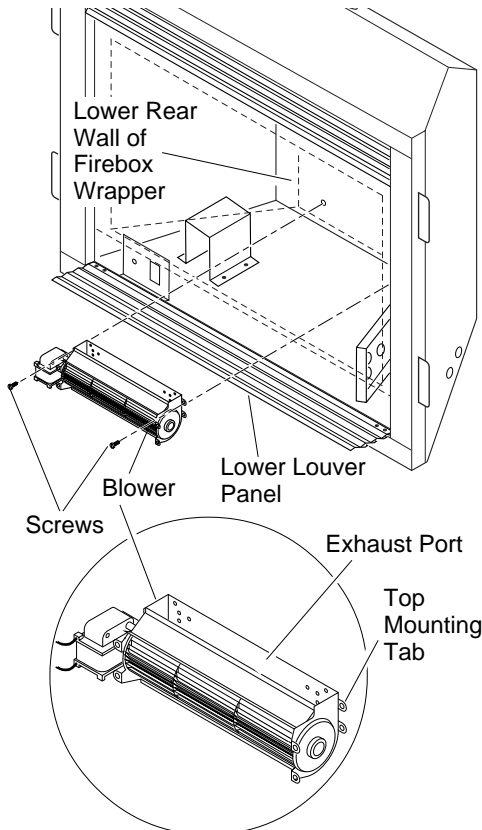

Figure 31 - Mounting Blower to Fireplace
IMPORTANT: For clarity, gas valve assembly and grate/burner assembly are not shown in Figures 31 through 34, page 17. They will, however, be in your fireplace when you are installing the blower. Also for clarity the firebox is shown with dotted lines.
2. Place the blower against the lower rear wall of firebox outer wrapper with the exhaust port directed upward. Align the holes in the top mounting tabs of blower with holes in wall of wrapper (see Figure 31, page 17). Using the two screws provided, mount blower and tighten screws securely.